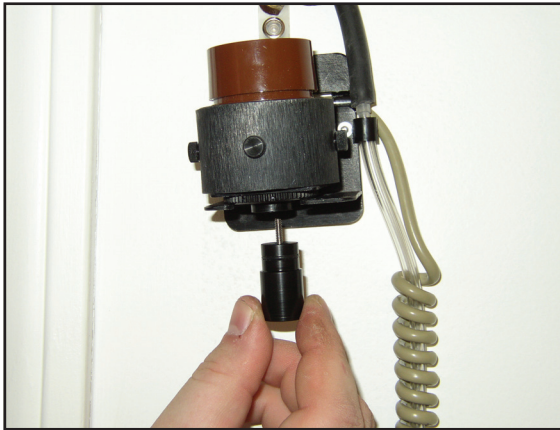

Figure 1. Insert Calibration Span Reference into sensor head.
7. Insert the Calibration Span Reference into the sensor head (*Figure 1 on reverse side*).